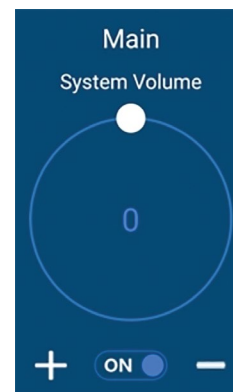

Fig.14
12. To use the Master/Main Volume control (Fig. 14), move the white ball around the circle or use the (+) plus or (-) minus controls to set the master volume level.